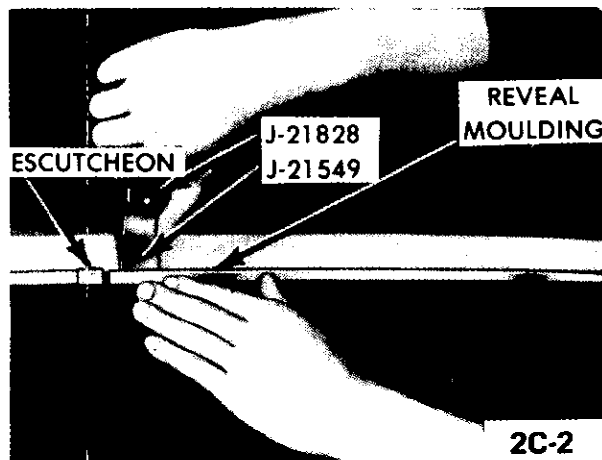

Figure 2C-2 Removing Reveal Molding
1. Remove reveal molding escutcheon. Starting at one end, pull molding out of rubber channel. See Figure 2C-2.